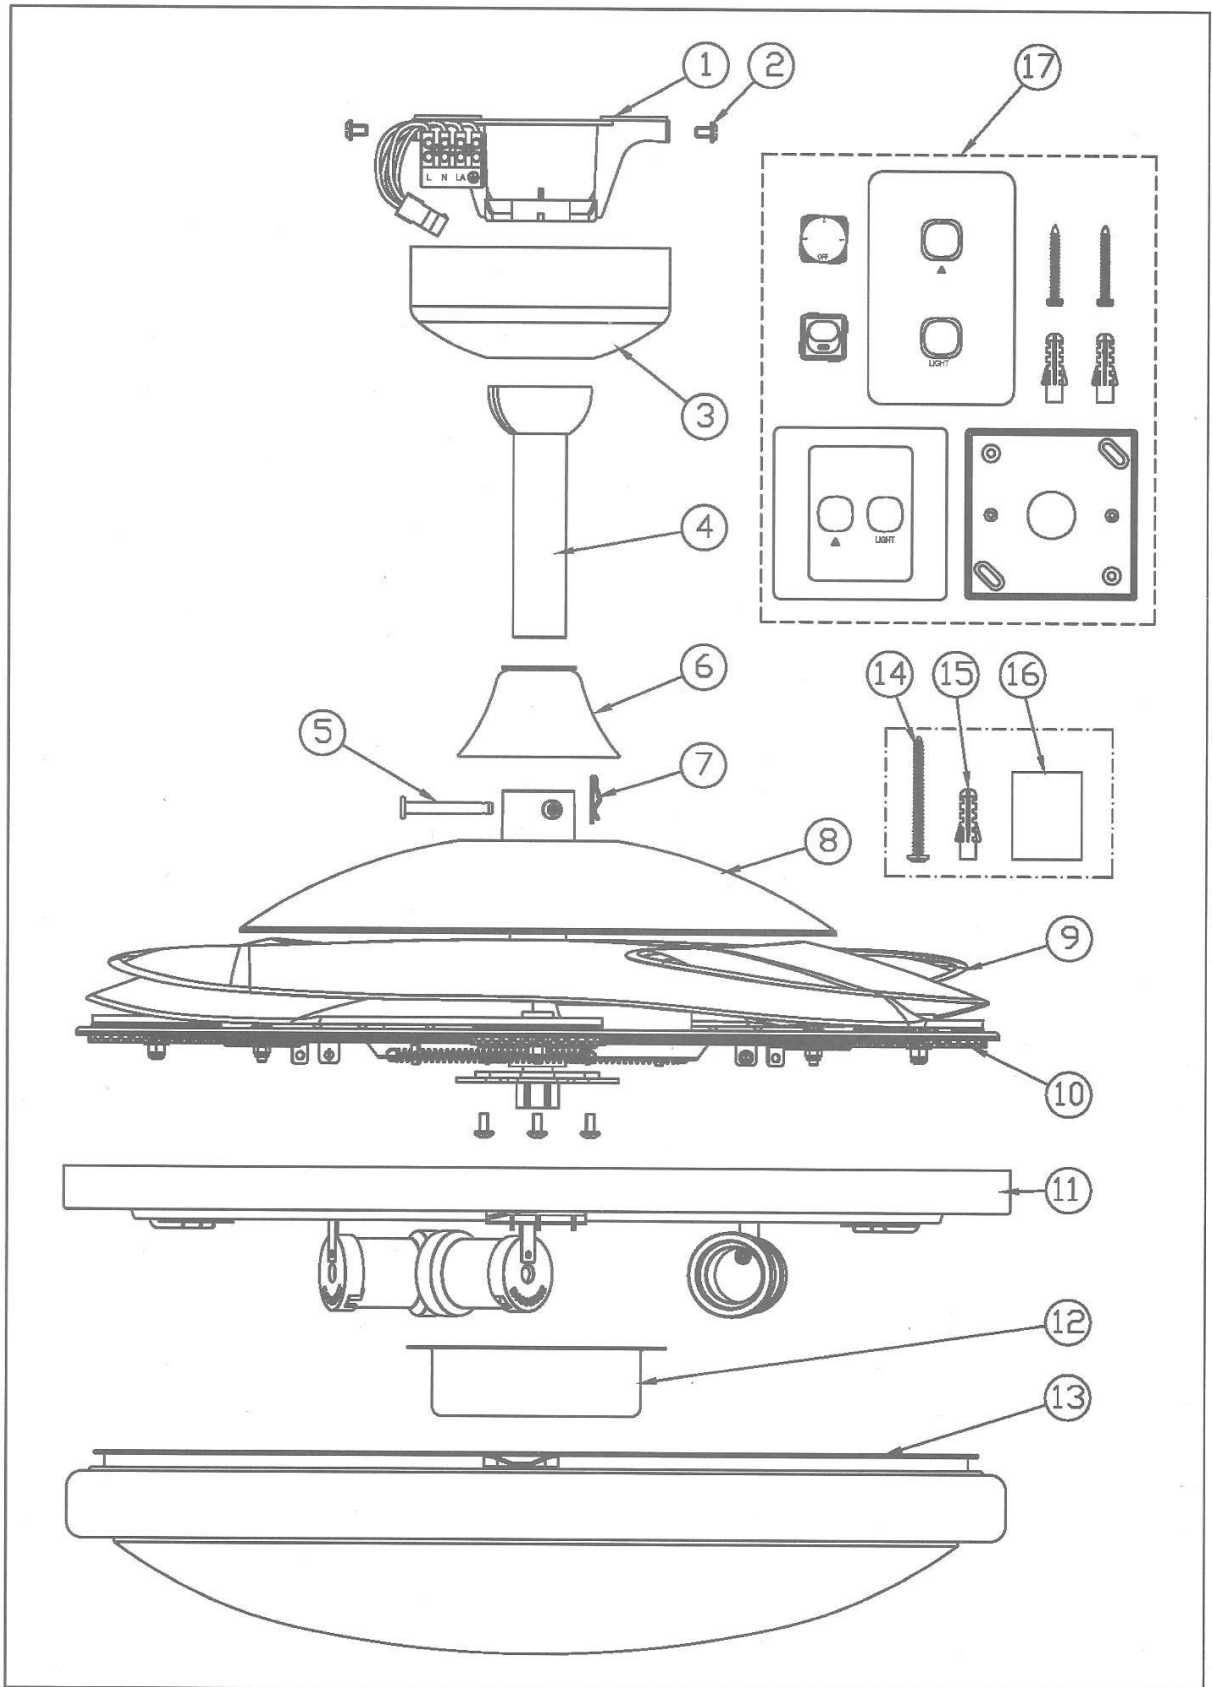

Figure 1.
Unpack the fan and carefully identify the parts. Please refer to FIGURE 1.
- 1) Remove ceiling canopy (No. 3 – Fig. 1) by loosening the 2 screws with slots.
- 1) Feed down rod through ceiling canopy (No.3– Fig. 1) and bolt and pin cover (No.6– Fig. 1).
- 3) Insert down rod (No.4– Fig. 1) to the top of the unit (No.8– Fig. 1), line up unit holes with down rod holes and insert bolt (No.5– Fig. 1). Then insert pin (No.7– Fig. 1) to end of bolt.
- 2) Insert the remote receiver in mounting bracket (No.1- Fig.1).
- 4) Then slide the ceiling canopy (No.3– Fig. 1) onto the mounting bracket using the slotted holes. Align the other 2 holes and then install the 2 other screws. Tighten all four screws firmly.
Install light kit and screw light base (No.11-Fig.1) firmly to the fan. Do not over-tighten. Plug the plug and socket together. Install the wire cover (No.12-Fig.1) to light base. Install bulbs (not included). Finally install the light dome to light base via turning it clockwise.